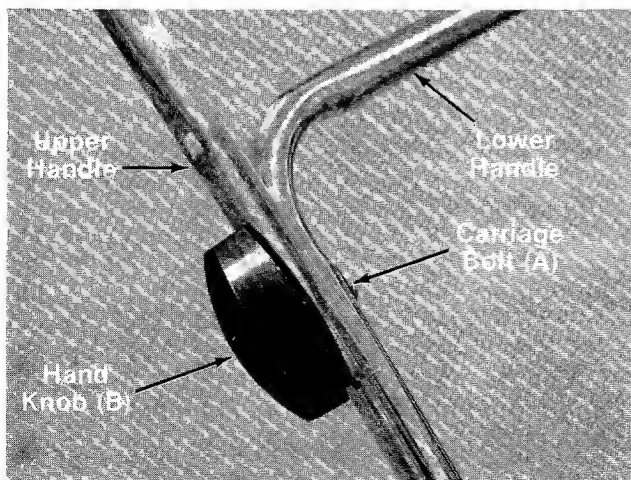

FIGURE 3. Folding Handle Only
← **A. Units with Folding Handle**—Secure upper handle with two curved carriage bolts (A) and hand knobs (B) as shown in figure 3. The knobs may be assembled either to the inside or the outside of the handle.